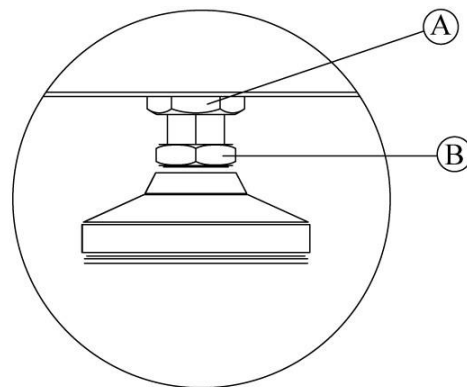

Fig. 12-2
- i) Using a 15/16 inch open end wrench, loosen nut A on Right Rear Foot (only side adjustable). Fig. 12-2